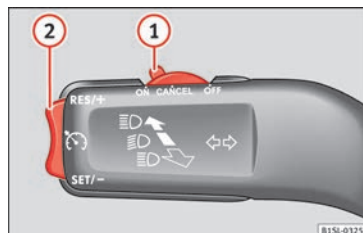

Fig. 34 Switch and controls for operating the CCS.
- Switching on the CCS: Move switch **» Fig. 34 1** to **ON**. The system is on. If no speed has been programmed, the system will not control it.
- Activating the CCS: Press button **» Fig. 34 2** in the **SET/-** area. The current speed is memorised and controlled.
- Temporarily switching off the CCS: Move switch **» Fig. 34 1** to **CANCEL** or push the brake. The cruise control system is switched off temporarily.
- Reactivating the CCS: Press button **» Fig. 34 2** in **RES/+**. The memorised speed is saved and controlled again.
- Switching off the CCS: Move switch **» Fig. 34 1** to **OFF**. The system is disconnected and the memorised speed is deleted.